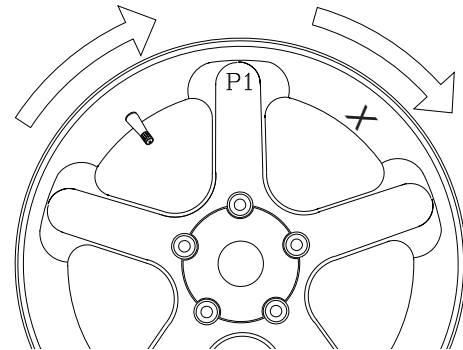

Figure 34
6. The display will read “**SPO 1**”. Locate the first spoke nearest to top dead center and rotate the wheel so that spoke is at top dead center. See Figure 34. Press **F** to store first position.